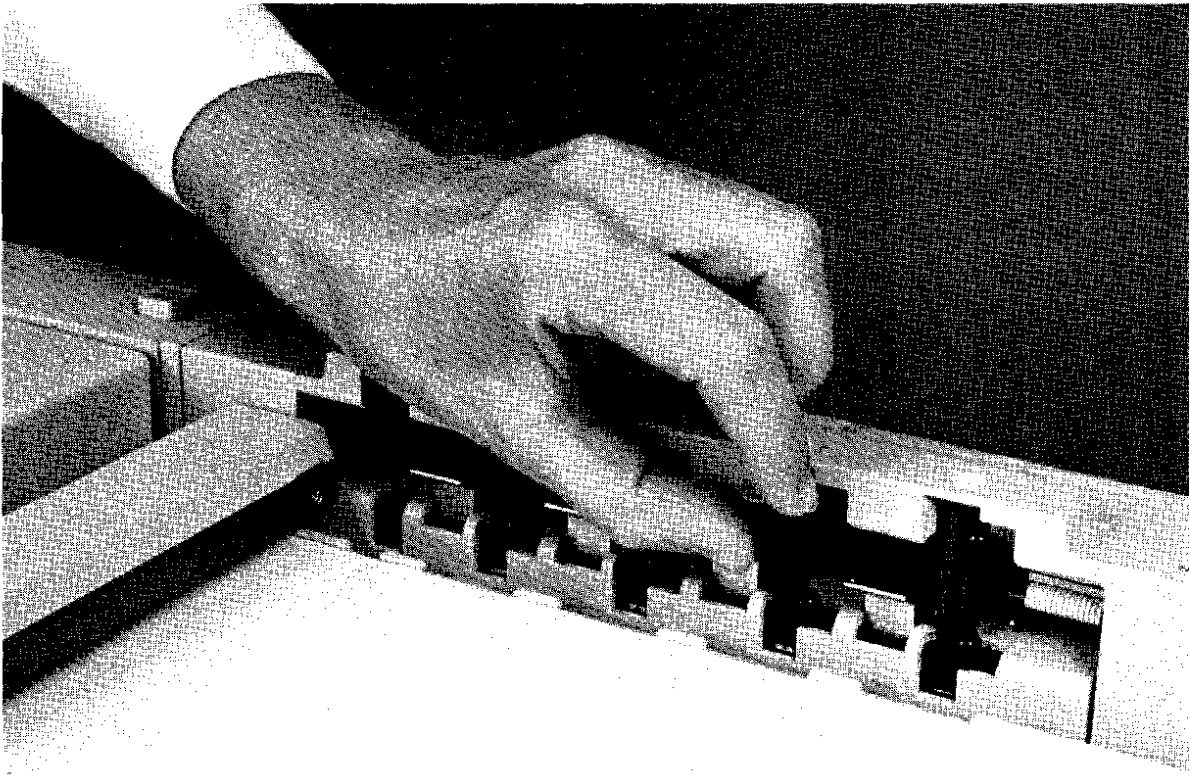

Figure 2-2. Pen Stable Loading
- d. Insert the tip of the pen into the rubber cap located at the bottom of the pen stall as shown in Figure 2-2.